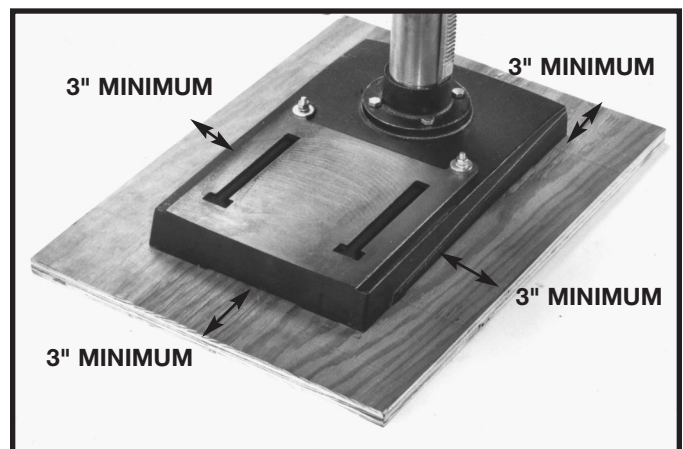

Fig. 22
3. When the drill press is mounted to the supporting board, the board must extend a **minimum of 3"** beyond each edge of the drill press base, as shown in Fig. 22.